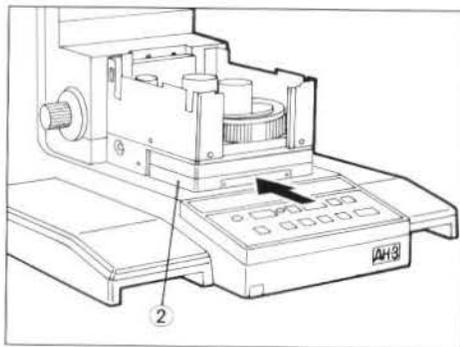

Fig. 3
Slide the aperture iris diaphragm onto the dovetail slide between the condenser turret and the base. Clamp the aperture iris diaphragm by tightening the Hexagon screw ② located on the left hand side of the microscope stand. Use the Allen wrench provided. (Fig. 3)